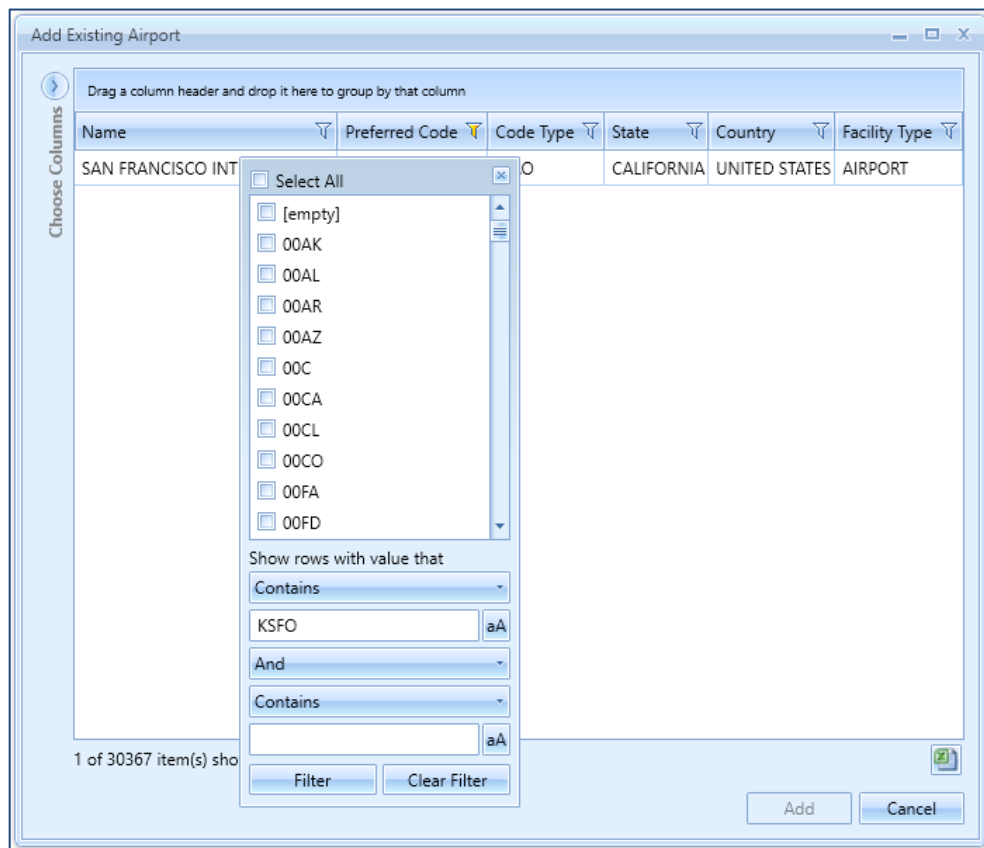

Figure 5. Add Existing Airport Dialog
2. In the *Add Existing Airport* dialog (Figure 5):